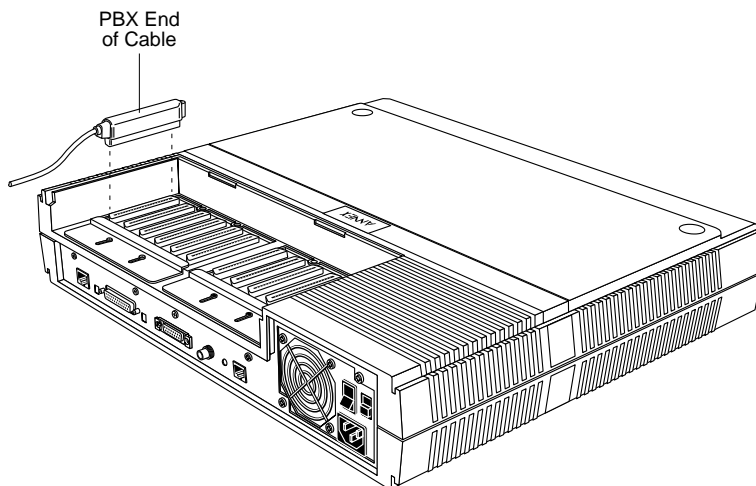

Figure 2-9. Attaching the Cable to the PBX Connector
- 3 Attach the PBX end of the fan-out cable to the PBX connector (see Figure 2-9).